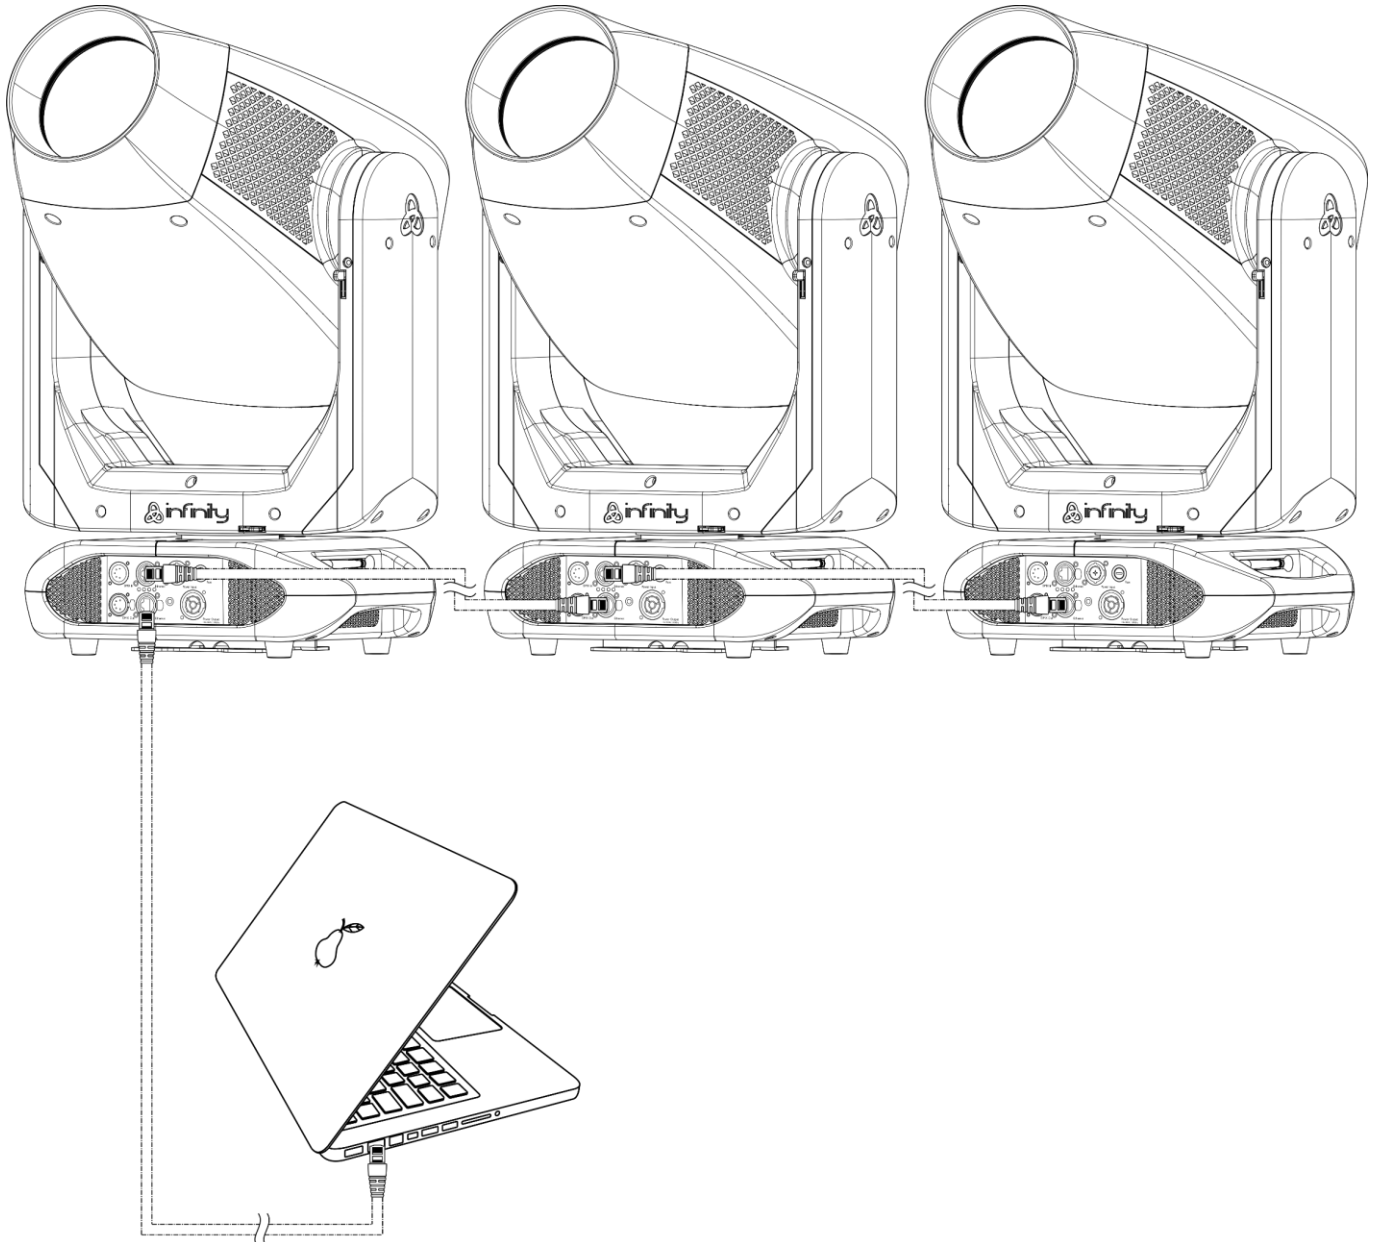

Fig. 07
- 05) Link the units as shown in fig. 07. Connect the first unit's RJ45 "out" socket with the second unit's "in" socket, using a CAT-5/CAT-6 cable. Repeat this process to link the second, third, and fourth units.